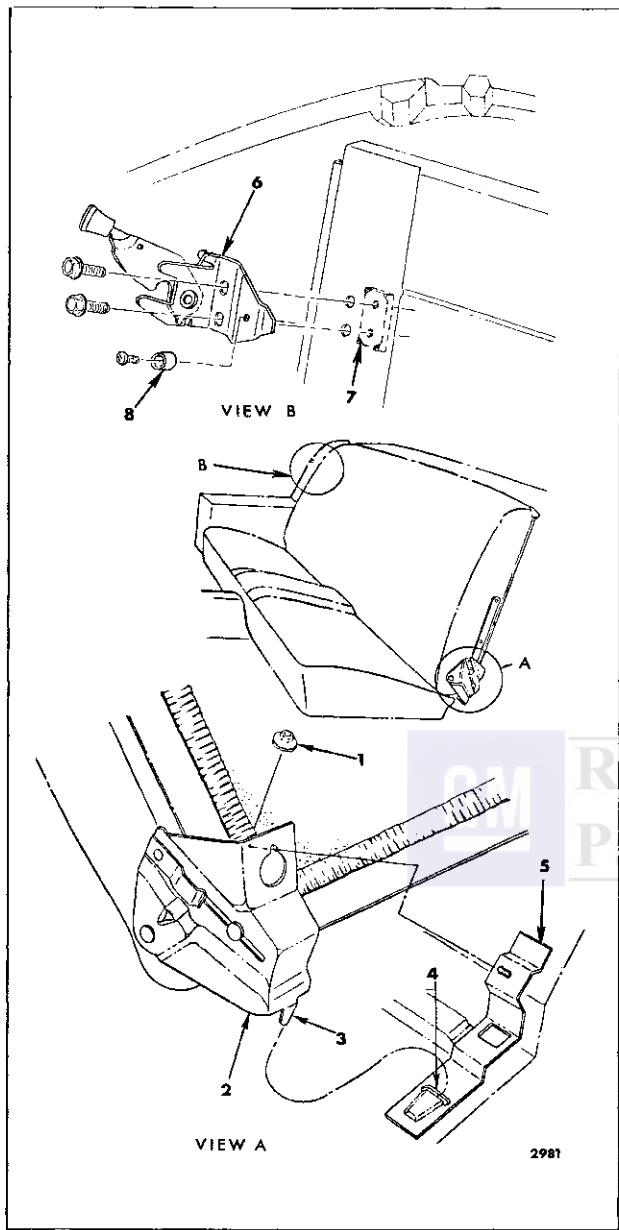

Fig. 15-48—Folding Rear Seat Back Assembly — "F" Body Styles
2. At both right and left seat back link, remove stud nut securing seat back link to anchor plate on floor pan (Fig. 15-48).
3. Lift seat back assembly upward to disengage tab of link from slot in anchor plate (Fig. 15-48), and remove seat back assembly from body.
2. Remove rubber bumper (Fig. 15-48) and remove compartment front trim foundation.
4. While holding the lock anchor plate on the back side of the seat back support, remove lock attaching screws (Fig. 15-48, View "B") and remove lock and anchor plate.